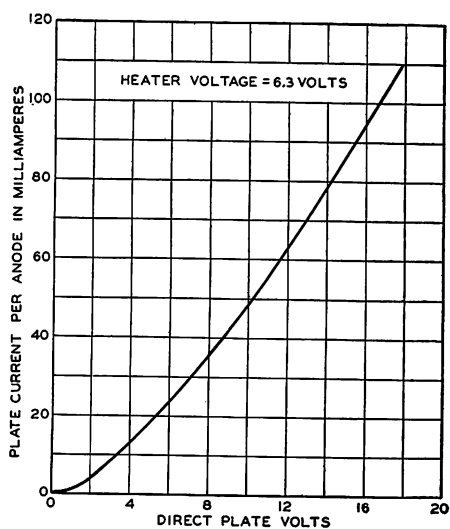

FIG. 5
**Characteristics**—Figure 5 shows the plate current-plate voltage characteristic of a single diode unit of a typical tube.